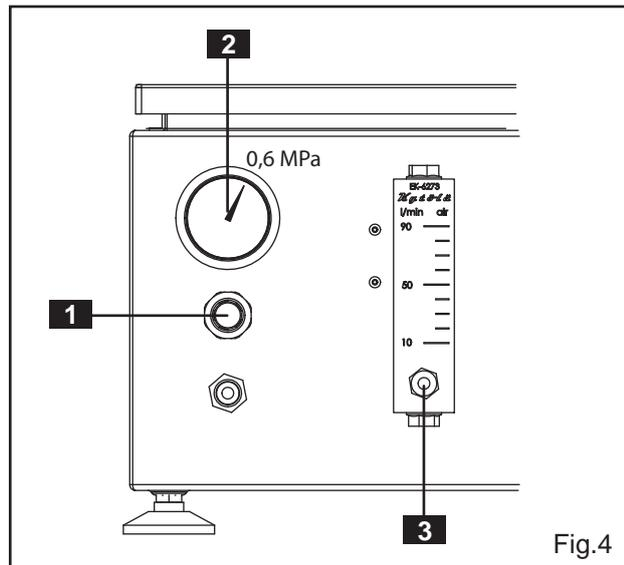

Fig.4
1. Air pressure setting (Fig.4)